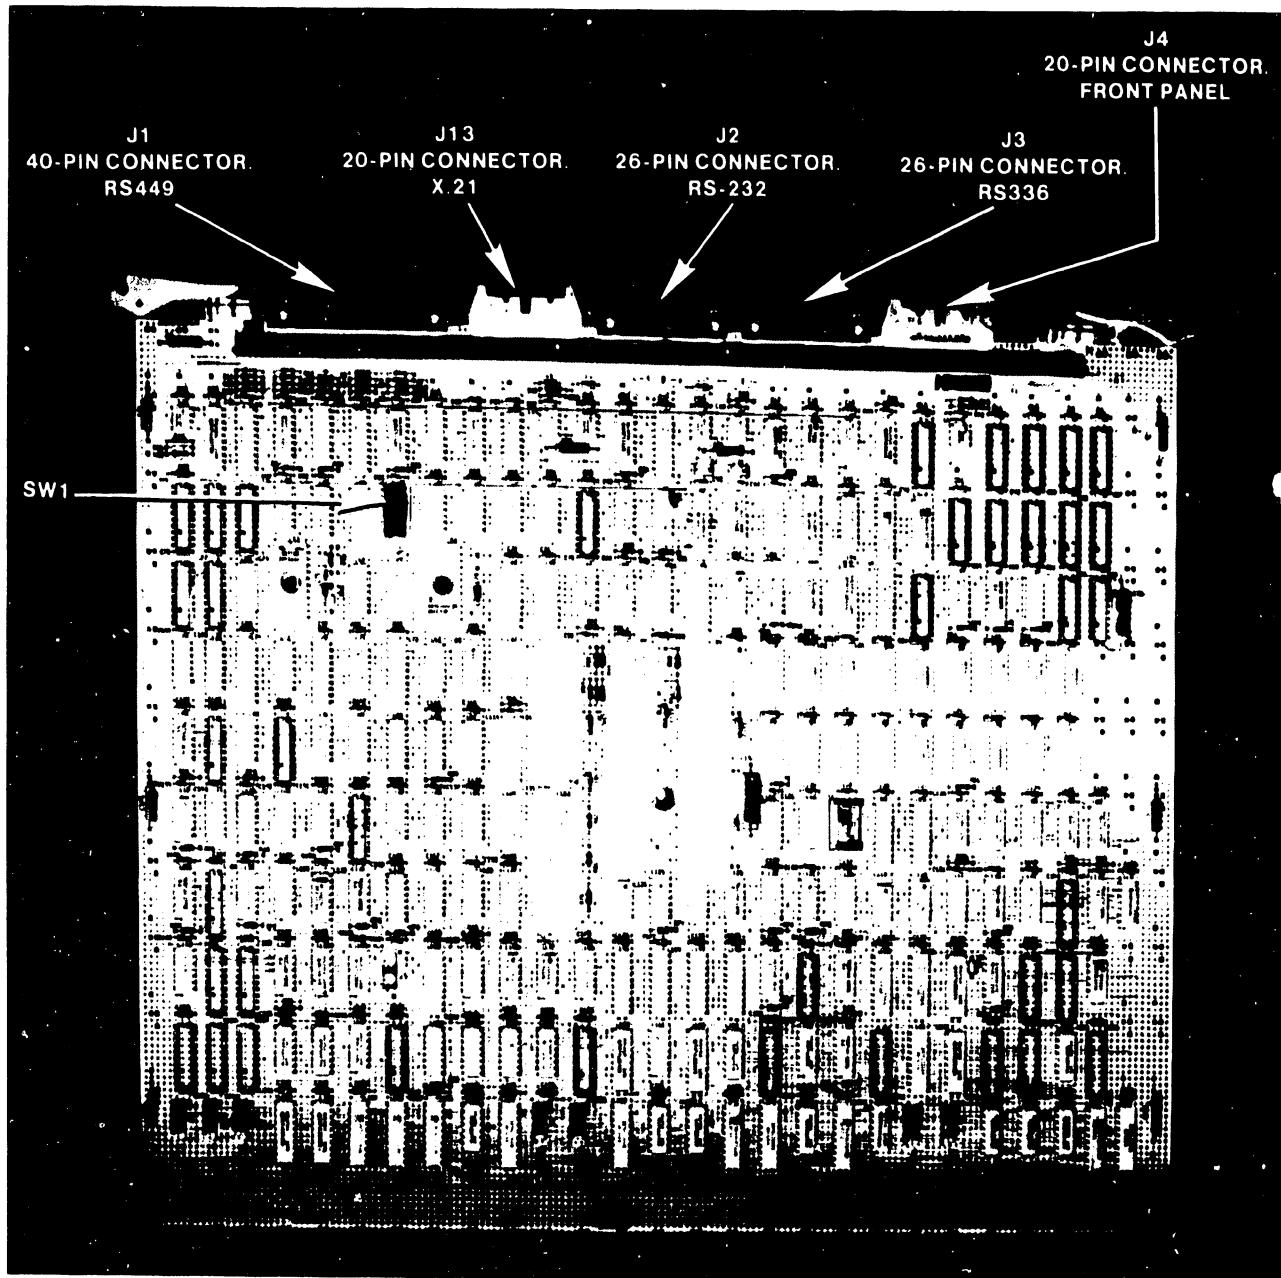
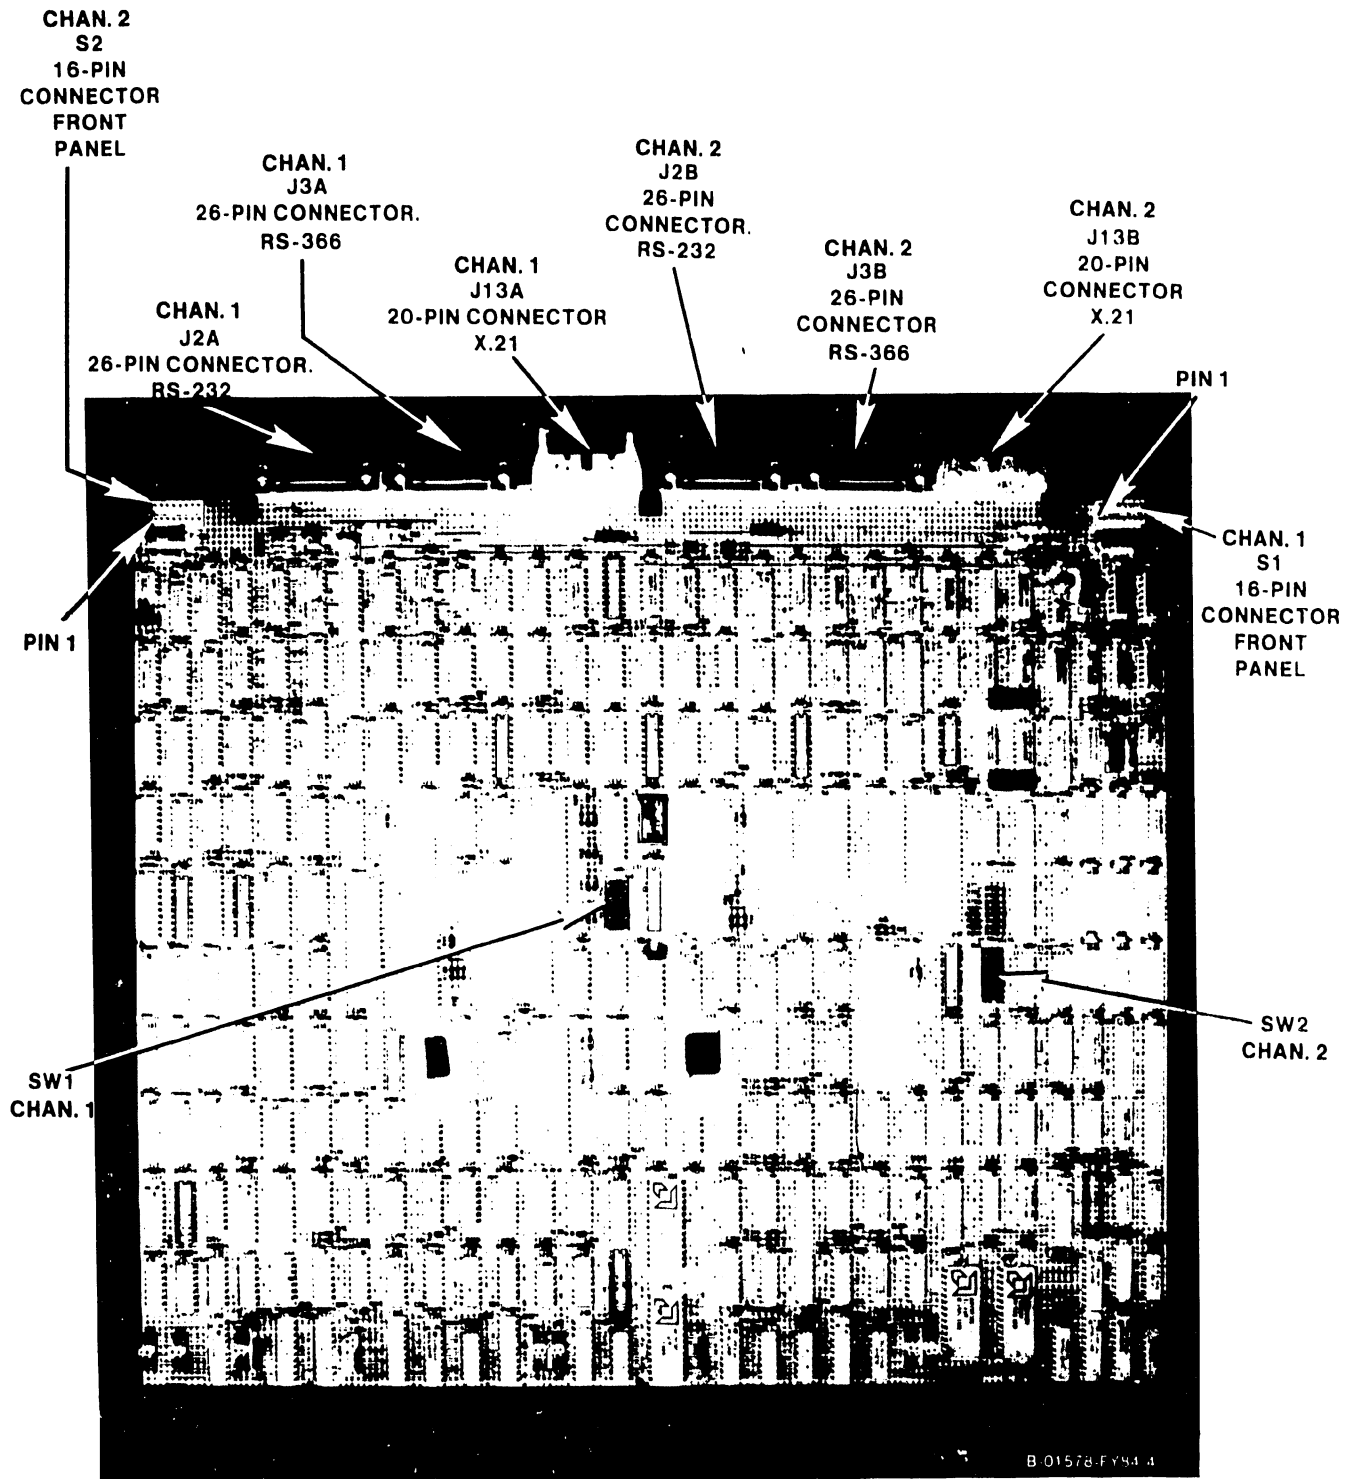

Figure 5-15. 210-8337 1-Port Telecommunications Adapter
Figure 5-16. 210-8637 2-Port Telecommunications Adapter
1. Remove all connectors from the top of the 1-port 210-8337-A Telecommunications Adapter (figure 5-15) or 2-port 210-8637-A Telecommunications Adapter (figure 5-16) in Motherboard slot #9 (I/ODA6). Note the position of all connectors for later reassembly. (Note the position of all cables on the boards that are already installed in the system. Some of these cables may have to be removed to allow removal and replacement of the Telecommunications Adapter.)
3. Check the settings of the 8-position Address/Status switch(s) SW1 (1-port) and SW2 (2-port). (See figures 5-15, 5-16, and 5-17, and table 5-7.)